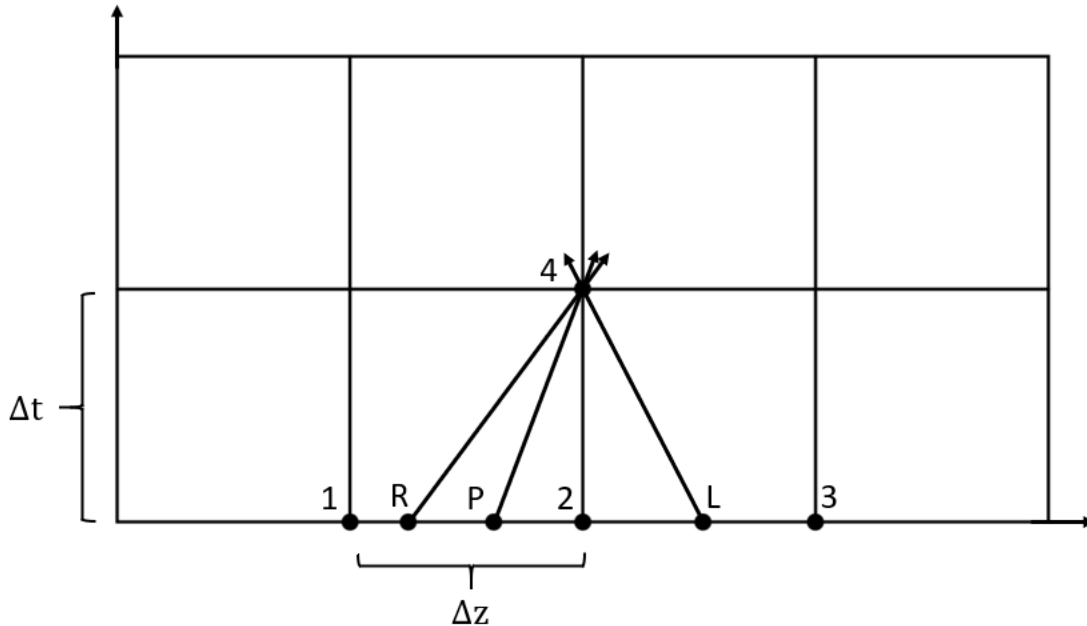

Figure 1: Characteristic grid. The point 4 sees effects from points R, L, and P after some time dt , which has equal magnitude of dx/a
1. The values are only known at the grid points (points 1, 2, and 3 in Figure 1). Therefore, interpolation is required to find the values at points R, L, and P. In literature this is often cited as the largest source of error. Linear interpolation is used to determine the position, z , and the properties at each of the starting points R, L, and P. Though compressible flow properties do not vary linearly along a pipe, it has been found that more sophisticated interpolation is less stable and requires a much larger calculation time, which is why linear interpolation is used for xStream.